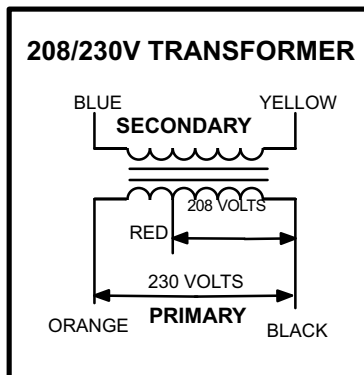

FIGURE 4
primary voltage taps as shown in figure 4, while 460 (G) and 575 (J) voltage transformers use a single primary voltage tap. Units will be factory wired for 230V (orange and black). 208V (red and black) applications should be re-wired in the field.
All LCA/LCC series units with 45 - 120 kW electric heat use a single line voltage to 24VAC transformer mounted in the electric heat control hat section in the control box. The transformer supplies power to all electric heat controls (contactors and coils). The transformer is rated at 70VA and is protected by a 3.5 amp circuit breaker CB13. The 208/230 (Y) voltage transformers use two primary voltage taps as shown in figure 4. Transformer T2 is identical to T1.